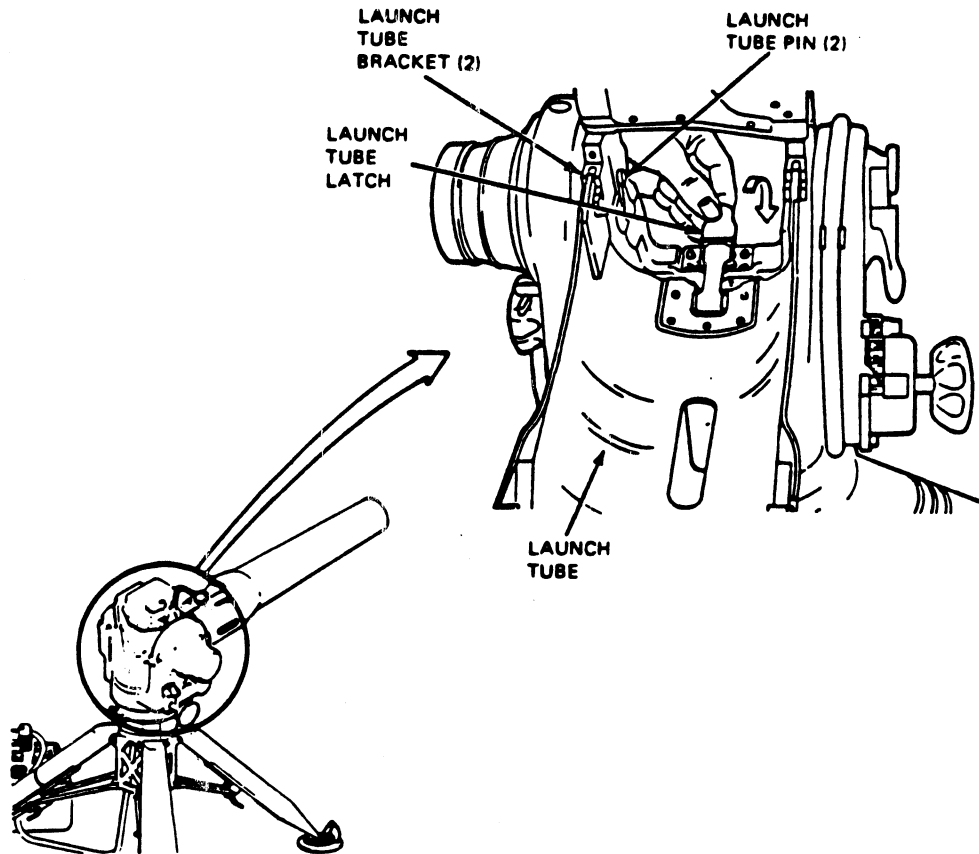

Fig 2-8. Location of launch tube latch, pins, and brackets.
Step 1. Lift the launch tube latch (fig 2-8).
Step 2. Place the two launch tube pins in the launch tube brackets (fig 2-8) so that the launch tube is pointed in the direction of fire.